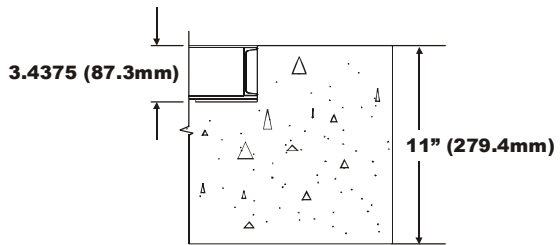

FIG. 21 FOUNDATION FOR THE PIT FRAME
Step 1. Place the pit frame in the approximate position it will occupy on the floor. (See Fig. 21)